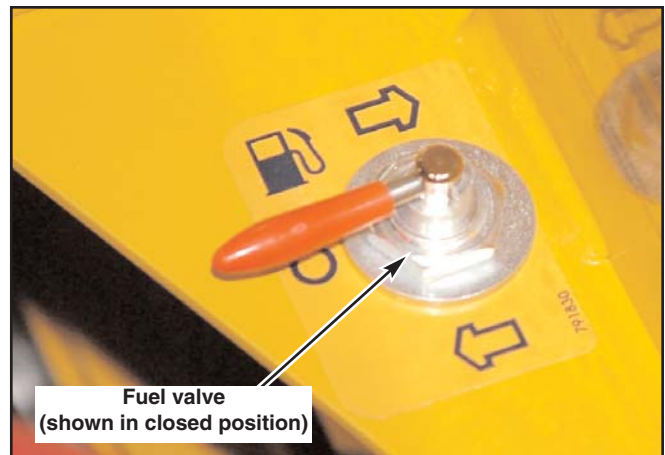

Figure 9-15
6. Fill fuel tank with proper grade of gasoline and open shut-off valves. Current production units have a fuel shut-off valve (Hustler p/n 745059) located behind the seat to the right side of the operator. (Fig. 9-15) Close this valve (center position) to prevent fuel flow to the engine. The valve's two other positions are front and rear. To drain a fuel tank equipped with this fuel shut-off valve kit use the following method:
2. Turn the fuel valve to the closed position (middle position). Fig. 9-15